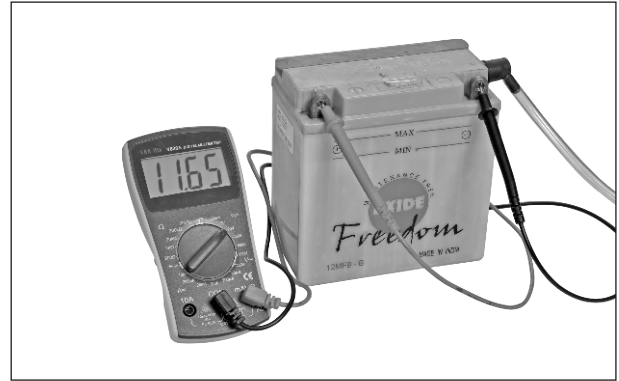

Fig. 5.65
- Measure the open circuit voltage of battery using pocket tester. (Fig. 5.65)